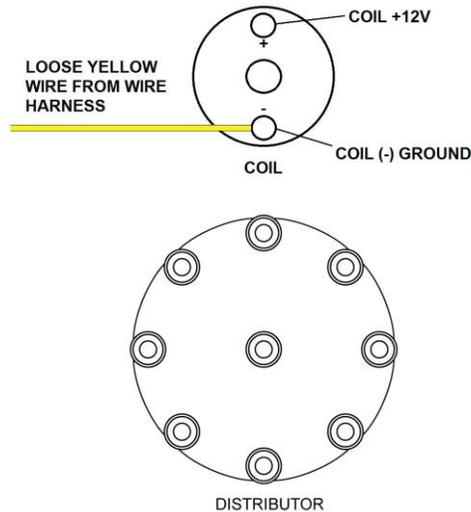

Figure 18
- 2) Any engine equipped with a factory mechanical advance distributor and separate canister style coil. This would include any points style distributor (Fig. 18).
Figure 18 below shows how to connect to a factory style ignition with a canister style coil.